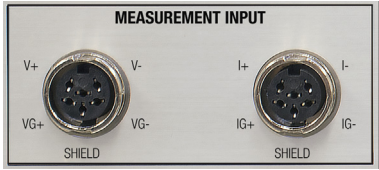

FIGURE 3-3 Measurement input connectors
Two 6-pin (240°) circular DIN 45322 receptacles are used for the resistive measurement input. One connector provides voltage source excitation connections (V) and the other provides current measurement connections (I). Both mate with 6-pin circular DIN plugs included with the instrument (Lake Shore P/N G-106-233). Examples of lead arrangements are shown in FIGURE 3-3. Refer to section 4.4 to configure the measurement input.